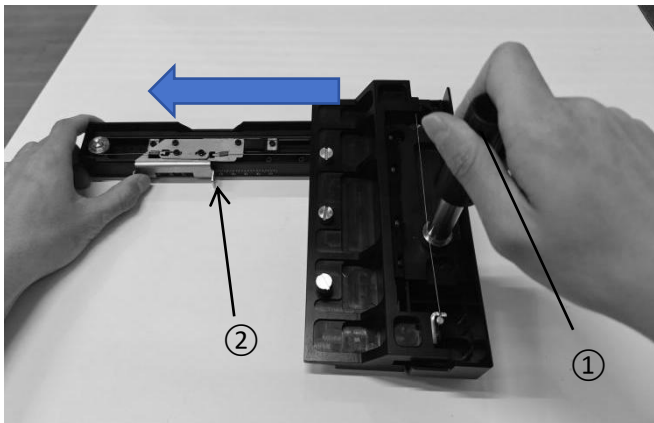
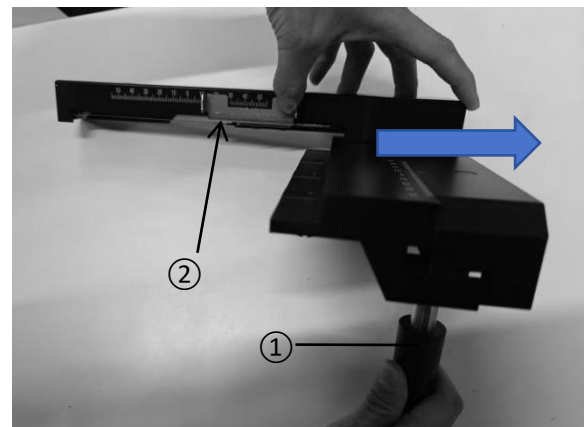

Fig.1
Fig.2
(1) X-Axis Travel Calibration:
As shown, fix X-axis adjustment knob ① with one hand. With the other hand, pull the X-axis movement scale at ② leftward (Fig.1 blue arrow) to the extreme left. Similarly, fix knob ① and pull the scale at ② rightward (Fig.2 blue arrow) to the extreme right.